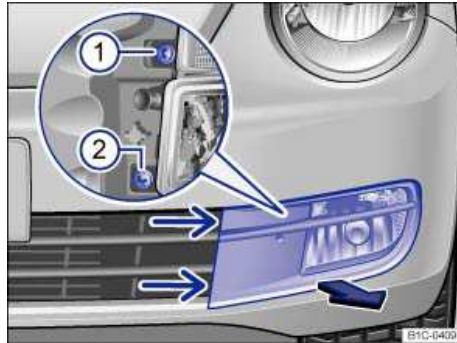
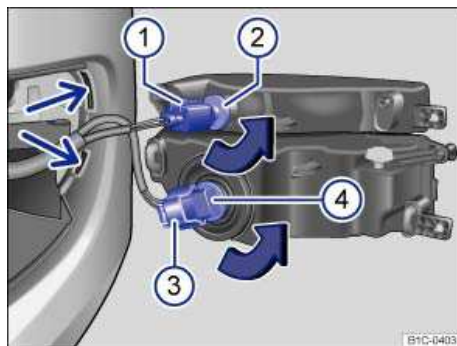

Fig. 173 In front left bumper: Removing the light assembly.
Fig. 174 Replacing light bulbs in the front bumper.
Turn signal ⇒ fig. 174 (2)	Front fog light / Cornering light (4)
2.	Pull the cover forward slightly at the retainers (small arrows) ⇒ fig. 173 using the wheel cover clip from the vehicle tool kit until the retainers release.
4.	Unscrew the fastening screws (1) and (2) with the flat blade of the screwdriver from the vehicle tool kit
5.	Tilt the headlight assembly slightly forward and pull out of the mounts ⇒ fig. 174 (small arrows).
6.	Release the connector (1) and pull it off. Use the flat blade of the screwdriver from the vehicle tool kit, if necessary.	Release the connector (3) and pull it off.
7.	Turn the bulb holder (2) as far as it goes to the left and pull it out together with the light bulb to the rear.	Turn the bulb holder (4) as far as it goes to the left and pull it out together with the light bulb to the rear.
10.	Attach the connector (1) to the bulb holder (2). The connector must latch with a "click."	Attach the connector (3) to the bulb holder (4). The connector must latch with a "click."
12.	Tighten the fastening screw ⇒ fig. 173 (1) and (2) with the screwdriver.